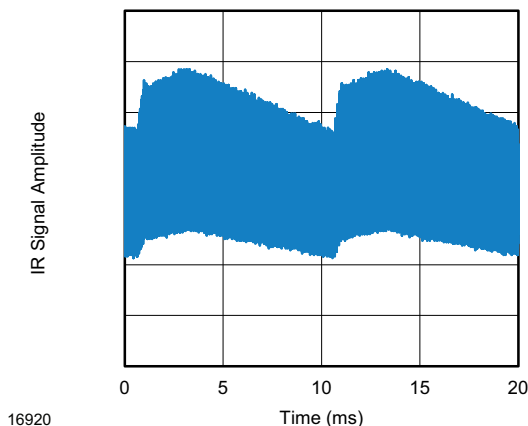
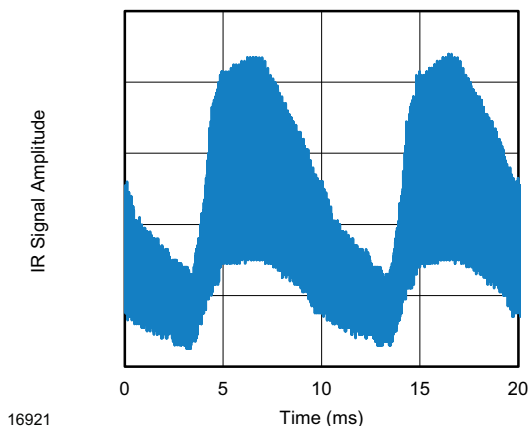

Fig. 13 - IR Disturbance from Fluorescent Lamp With Low Modulation
Fig. 14 - IR Disturbance from Fluorescent Lamp With High Modulation
- Strongly or weakly modulated patterns from fluorescent lamps with electronic ballasts (see Fig. 13 or Fig. 14)